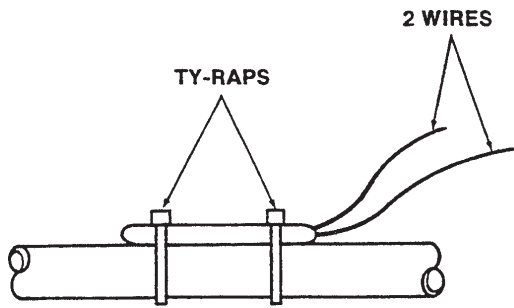

Figure 62. Ty-raps Removal
- Carefully remove the foam and thermal mastic until the sensor is visible, then cut the small ty-raps that hold the sensor, and remove (Figure 62).